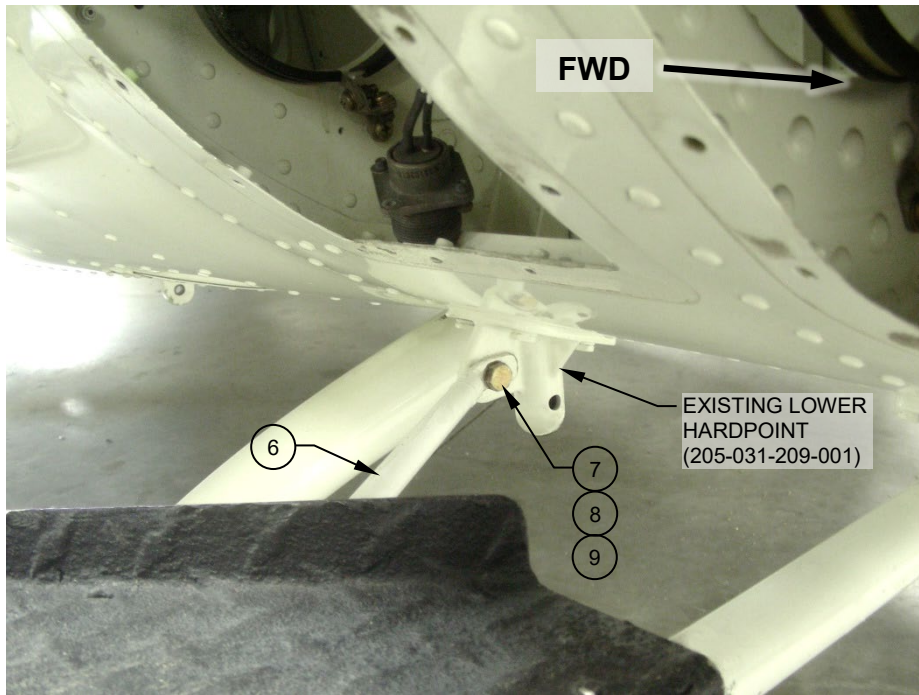

Figure 4
10. Install Strut, Assy (Item 6) to the welded tang on FWD INBD side of Step, Assy, RHS (Item 1) using bolts (Item 8), self-locking nuts (Item 9) and washers (Item 7). Reference Figure 4.
11. Position the opposite side of the Strut, Assy (Item 6) to FWD face of existing lower hardpoint (205-031-209-001) Reference Figures 4 & 5. Clamp in place and transfer the hole from the hardpoint into the tang using a letter "O" diameter drill ($\varnothing .316$).